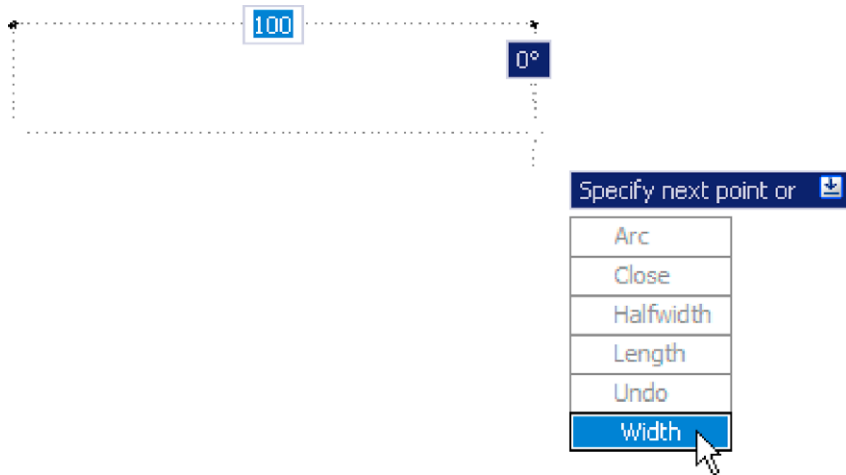

Fig. 3.26 Dynamic Input – first example – Polyline – click Width in the popup menu
3. Move the cursor and press the down key of the keyboard. A popup menu appears from which a prompt selection can be made. In the menu *click* **Width** (Fig. 3.26).